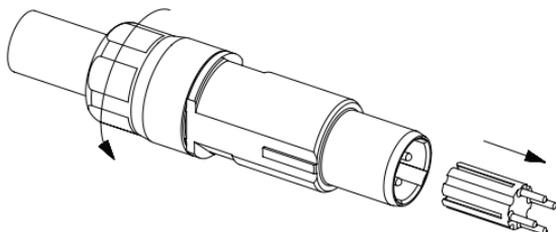

Figure XI-19
11. Screw the fitting nut all the way until it stops. Then remove the assembly aid (Figure XI-19).